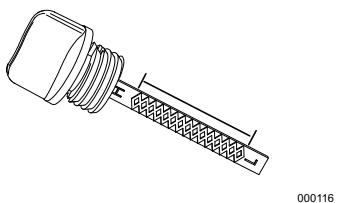

Figure 2-9. Safe Operating Range
- See **Figure 2-9**. Remove dipstick and verify oil level is within safe operating range.